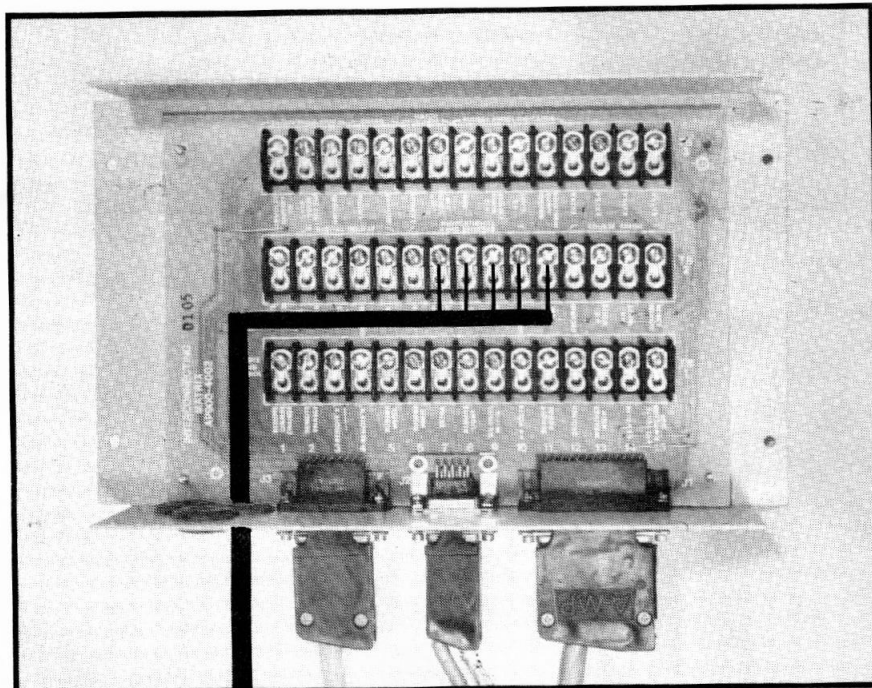

FIGURE 50. WIRING RPC INTO MATRIX
3. Remove the Matrix cover and insert the cable through one of the grommets. Referring to Figure 50, wire the cable into the Matrix. Follow General Wiring Instructions on page 16, Section 2.]. Replace Matrix cover.